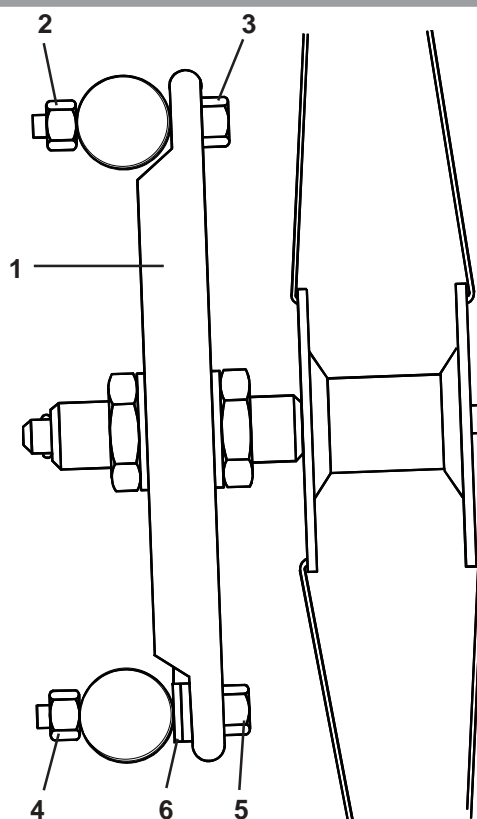

Fig. 38
The rear wheel camber is preset at the factory at 2° (Fig. 38), but it can be adjusted by loosening the axle plate (1) top retaining nuts (2) and screws (3) and removing the bottom retaining nuts (4) and screws (5) ensuring that the camber washer (6) is retained. Insert an additional camber washer and re-assemble using 10mm A/F spanners, tightening the nuts and screws to 8-10Nm torque.